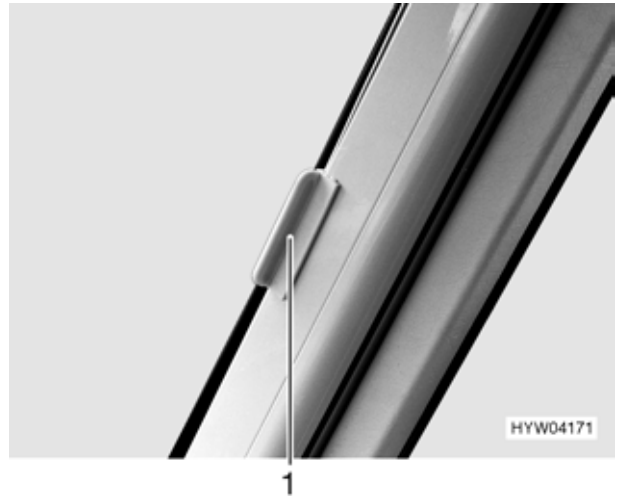
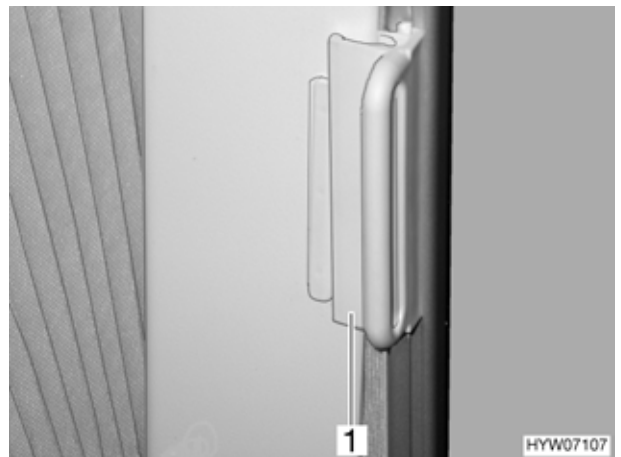

Fig. 20 Additional lock for front Roman shades (B-Class)
Fig. 21 Lock for Roman shades for the driver/passenger window (C-GT)
▶ The Roman shades for the windscreen, driver's window and front passenger's window must be open, in a fixed position and secured with the additional lock (Fig. 20,1 and Fig. 21,1).